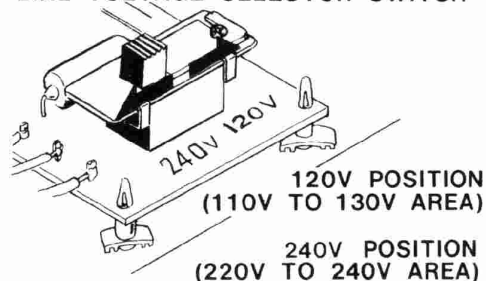

Fig. 2
- Fig. 2 shows the location of the line voltage selector switch and metal stopper. Remove the screw, to free the metal stopper.